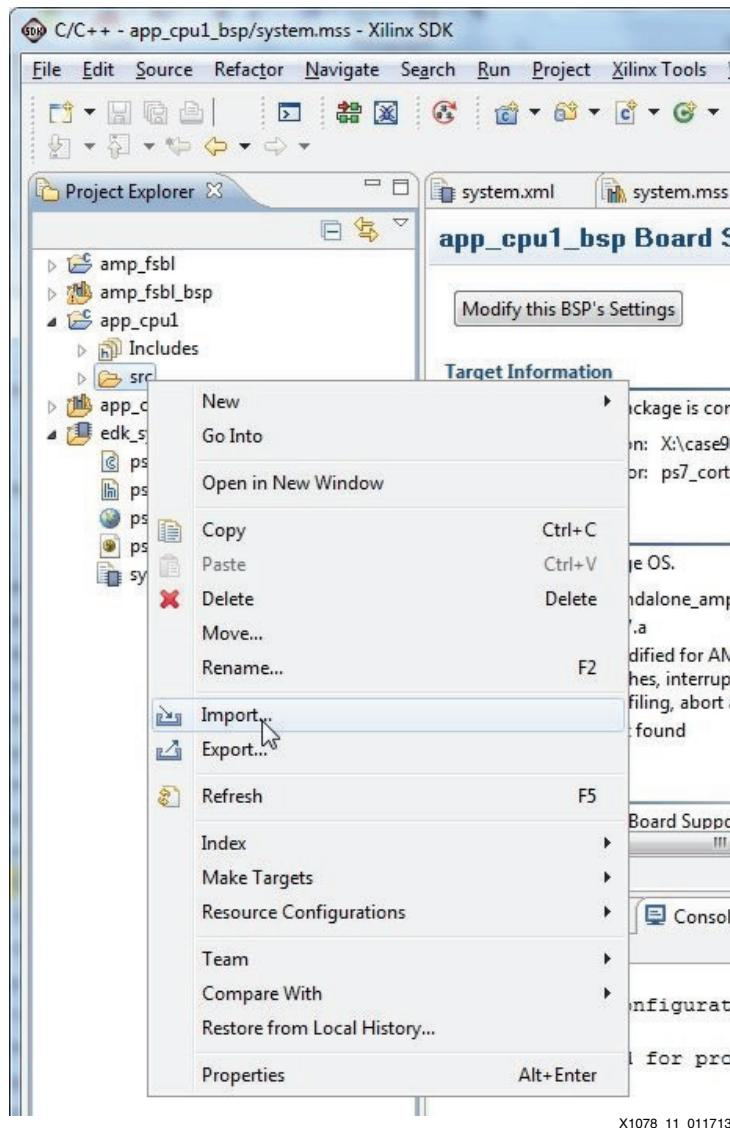

Figure 11: app_cpu1 SDK Import
- i. Select **Import** (Figure 11).